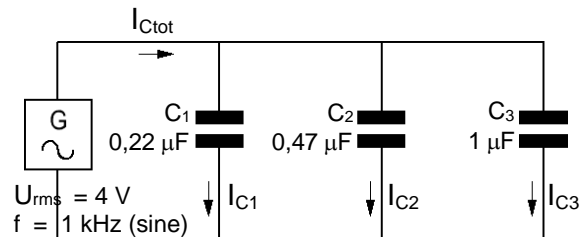

Fig. 10.3.2.1: Measurements on a parallel circuit of capacitors
- Assemble the circuit in Fig. 10.3.2.1 on the Electronic Circuits Board.